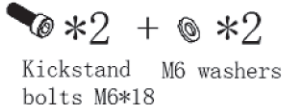

Figure 42.
- a. Find two kickstand bolts M6*18 and two M6 washers from the accessories box, as shown in Figure 42.